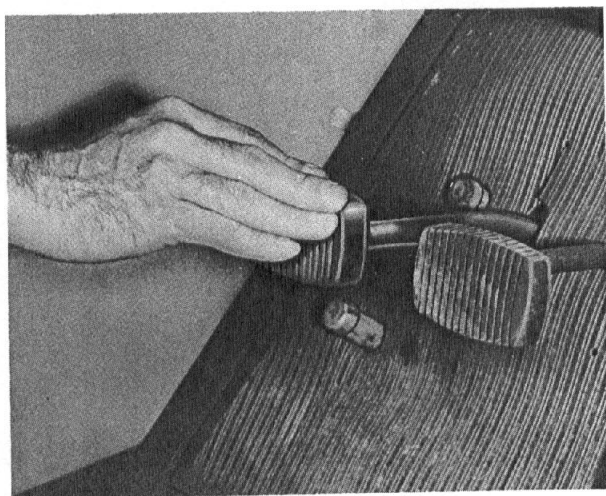

Fig. 37 - Checking Clutch Pedal 'Free Travel'.
(1) The clutch must be kept in proper adjustment by frequent inspection of the "free travel," which is the first easy movement of the clutch pedal.
(2) Check the clutch pedal, "free travel," with the hand (Fig. 37) and be positive that "free travel" is a result of actual release bearing clearance and not caused by worn linkage, or faulty hydraulic cylinders.